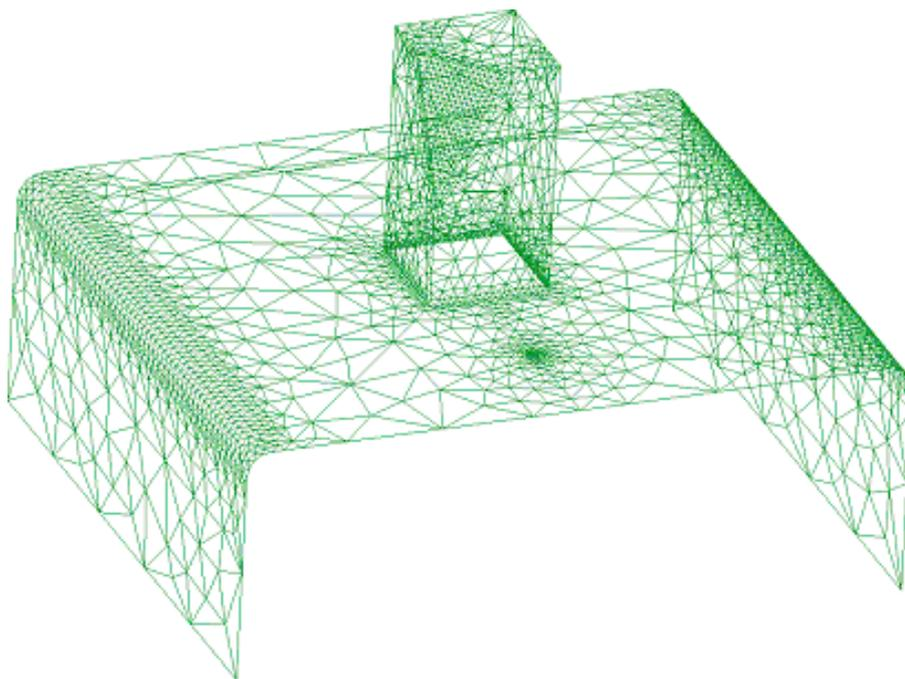

Figure 9. Mesh using sizes assignment by chordal error. Here, there is a greater concentration of elements in the curved zones.
- 7 . Another window appears in which you can enter a maximum element size. Leave the default value unaltered and click **OK**. This results in a high concentration of elements in curved areas. Now our approximation is significantly improved (see Figure 9).